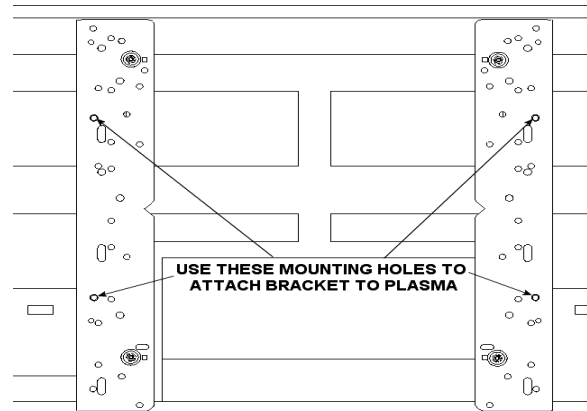

Figure 17. Bracket Attachment for Group 5
4. Place the interface brackets over the Nylon spacers (see Figure 17).